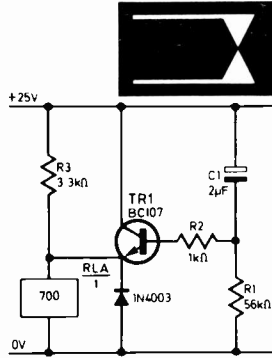

Fig. 1
The circuit in Fig. 1 was devised to allow the relay to receive sufficient current to energise, and then restrict it to just above the minimum hold-in value. When voltage is first applied, TR1 switches on for a brief period, governed by the time constant of C1.R1, to allow the relay to energise. After TR1 switches off, the necessary hold-in current flows through R3.
2. Pulse detection and BCD coding circuit (Fig. 1(a)).